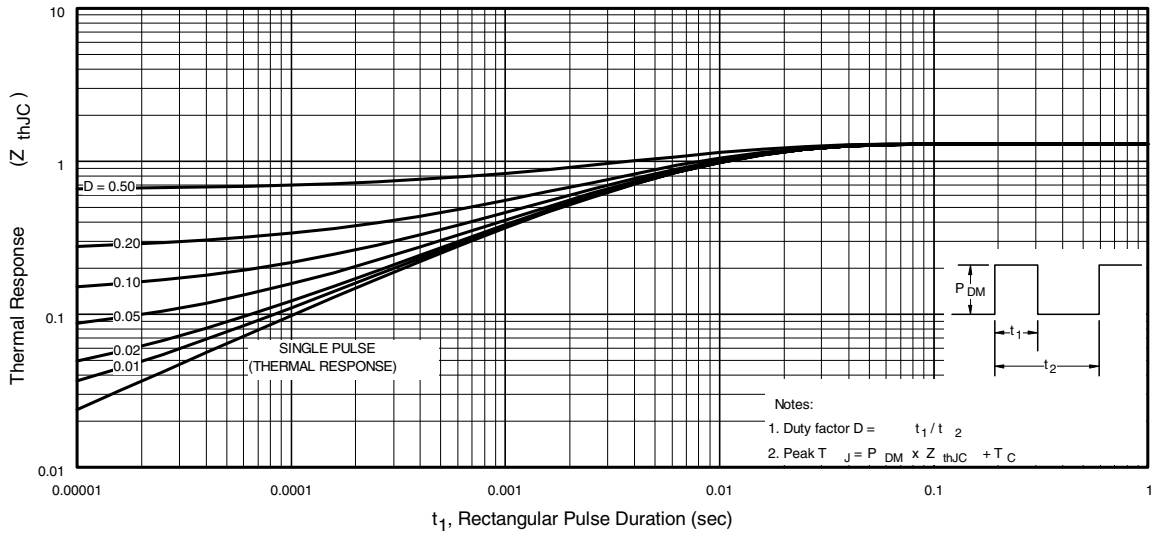
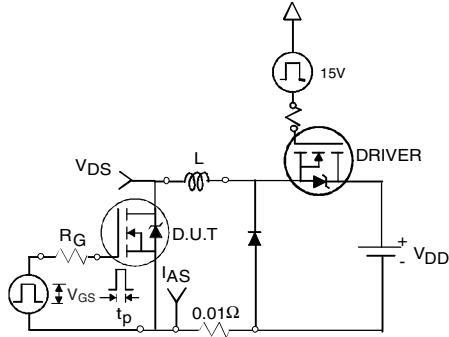

Fig 11. Maximum Effective Transient Thermal Impedance, Junction-to-Case
Fig 12a. Unclamped Inductive Test Circuit
| I_{AR} | Avalanche Current④ | See Fig.12a, 12b, 15, 16 | A |
3. Equation below based on circuit and waveforms shown in Figures 12a, 12b.
$Z_{thJC}(D, t_{av})$ = Transient thermal resistance, see figure 11)
- ① Repetitive rating; pulse width limited by max. junction temperature. (See fig. 11).
- ② Limited by T_{Jmax} , starting $T_J = 25^\circ\text{C}$, $L = 0.45\text{mH}$, $R_G = 25\Omega$, $I_{AS} = 30\text{A}$, $V_{GS} = 10\text{V}$. Part not recommended for use above this value.
- ③ $I_{SD} \leq 30\text{A}$, $di/dt \leq 280\text{A}/\mu\text{s}$, $V_{DD} \leq V_{(BR)DSS}$, $T_J \leq 175^\circ\text{C}$.
- ④ Pulse width $\leq 1.0\text{ms}$; duty cycle $\leq 2\%$.
- ⑤ C_{oss} eff. is a fixed capacitance that gives the same charging time as C_{oss} while V_{DS} is rising from 0 to 80% V_{DSS} .
- ⑥ Limited by T_{Jmax} , see Fig.12a, 12b, 15, 16 for typical repetitive avalanche performance.
- ⑦ This value determined from sample failure population. 100% tested to this value in production.
- ⑧ When mounted on 1" square PCB (FR-4 or G-10 Material). For recommended footprint and soldering techniques refer to application note #AN-994.